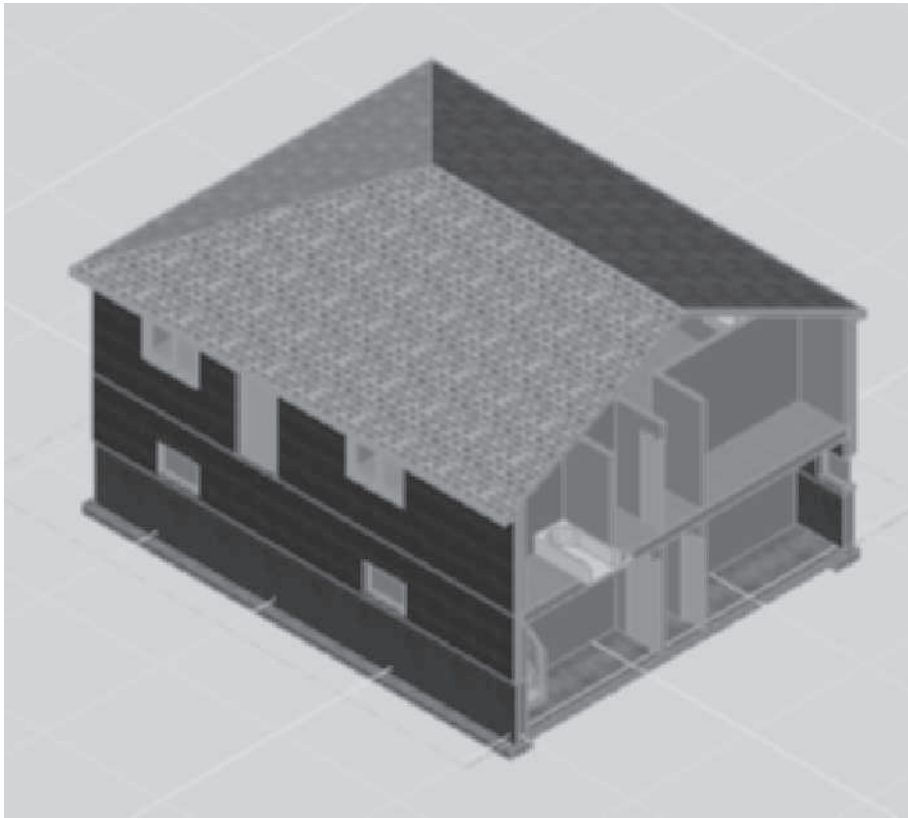

FIGURE 12.89 *Live section enabled*
29. Select the **Views** tab, select the **Transverse View** drawing of the **Project Navigator**, right-click, and choose **Copy**. Select the **Sections** category, right-click, and choose **Paste**. A copy of the transverse View drawing is listed in the Sections category. Select the **Transverse (2)** drawing, right-click, and click **Open**. Select the **SE Isometric** view in the **View Cube**.
30. Select the section line and choose **Enable Live** Section from the Live Section panel of the Building Section Line tab. Choose **Realistic** from the **Visual Styles** flyout menu of the Visual Styles panel in the View tab. The live section is shown in Figure 12.89.